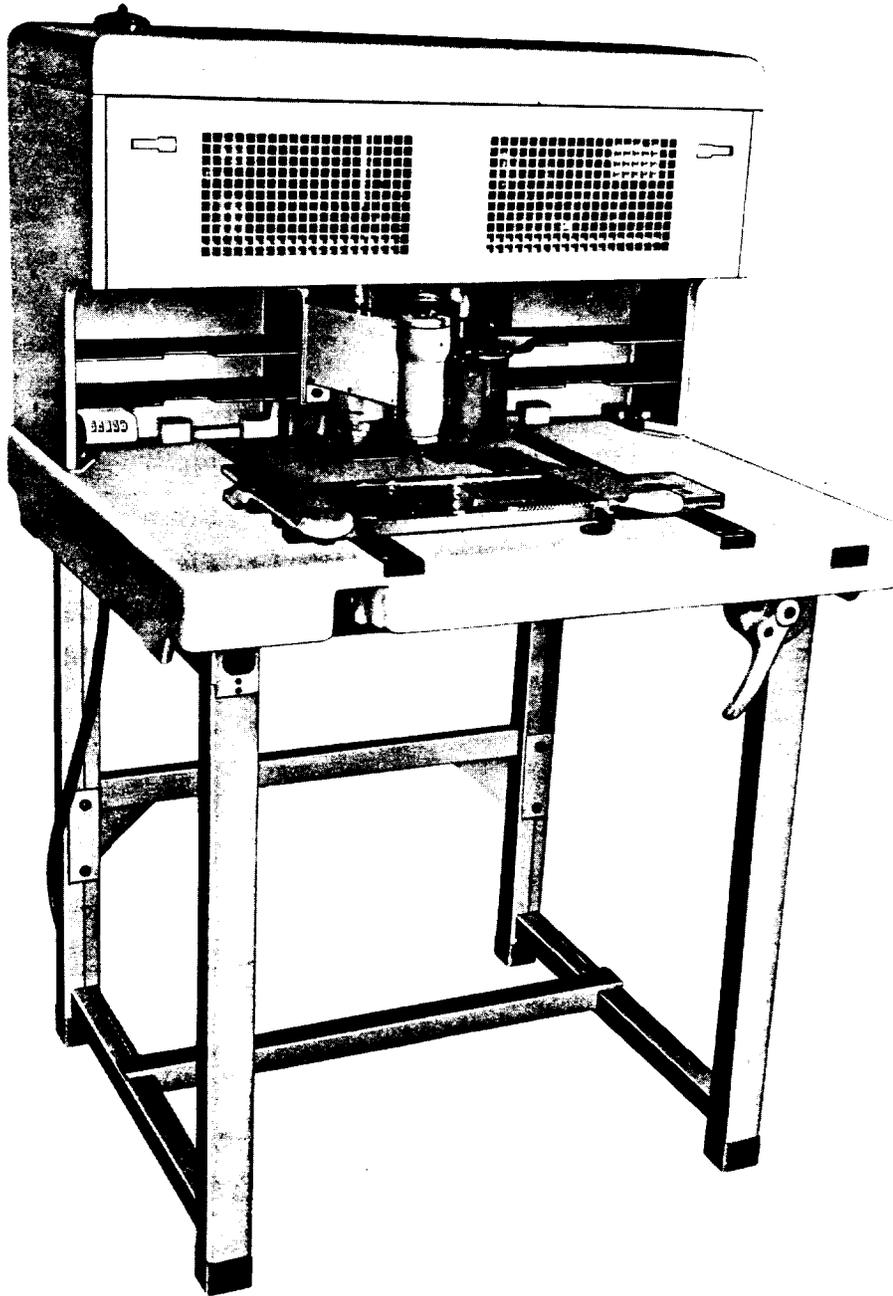

Fig. 1 - 659C and 659F Tools
Fig. 1 shows the modified tool which is identified by the code 659C or 659F.
3. To revise titles of Fig. 1, 2, and 4.